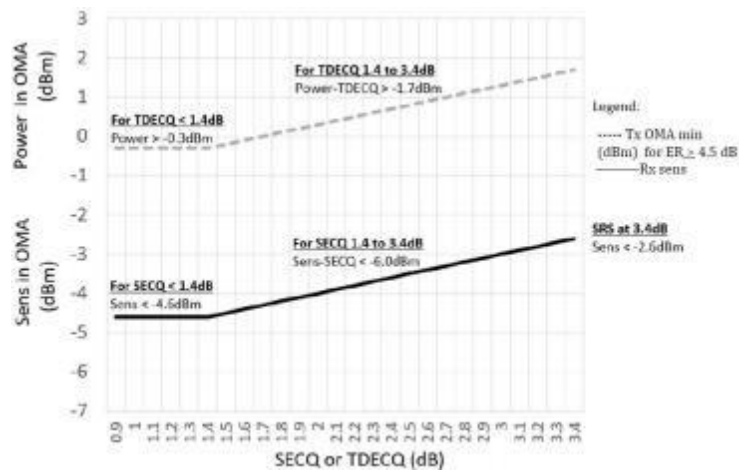

Figure 1 Illustration of receiver sensitivity mask for 400G-FR4
6. Receiver sensitivity (OMA_{outer}), each lane (max) is informative and is defined for a transmitter with a value of SECQ up to 3.4 dB. It should meet Equation (1), which is illustrated in Figure 1.